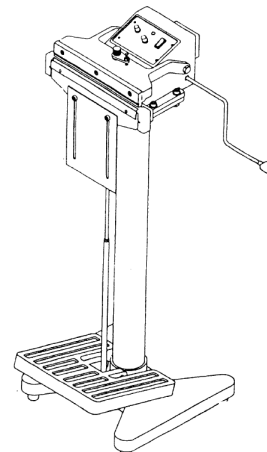

Figure 6. Connect working plate
4. Connect the working plate to the body. Fit working plate over the bracket. Note: When attaching the working plate bracket, leave enough space between sealer body and top of screws of that the working plate can be attached easily. (Figure 6).